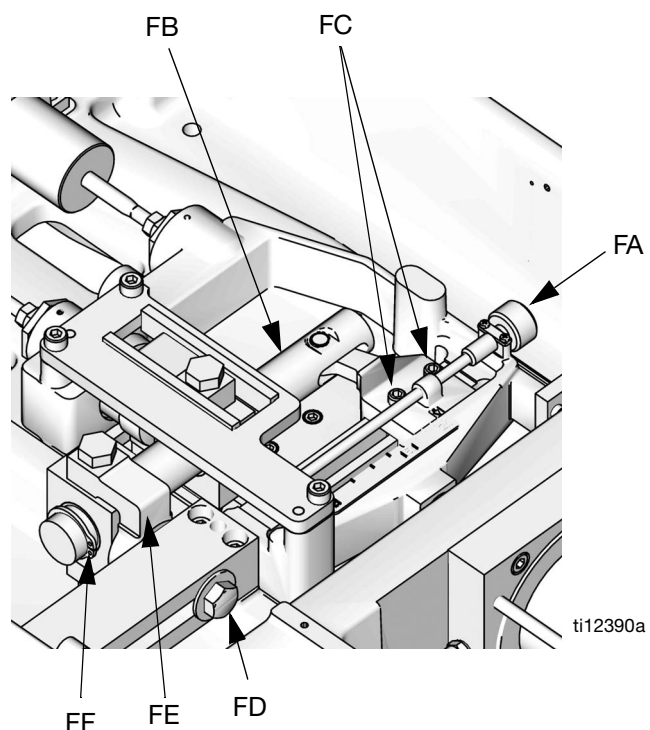
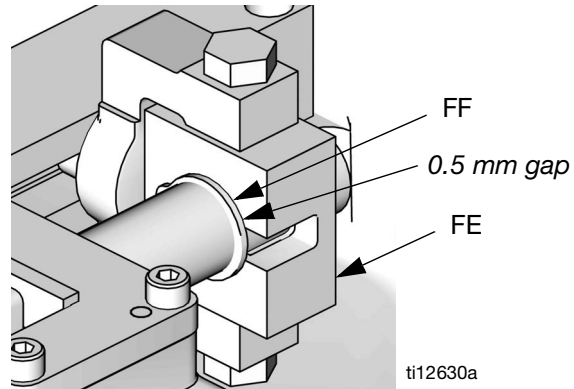

FIG. 9: Variable Ratio Arm Adjustment
FIG. 10: Ratio Beam Snap Ring
4. By manually pulling on the drive block, extend the pistons until the ratio beam (FB) is perpendicular or nearly perpendicular to the pump shafts.
7. Loosen the socket head cap screw (FC) on the adjustment clevis. See FIG. 9.
8. Loosen the hex head cap screws (FD) on the ratio adjustment pivot.
9. Turn the ratio adjustment knob (FA) clockwise to increase the ratio multiplier, and counter-clockwise decrease the ratio multiplier until the desired setting is reached (1.19 in the example).
10. Tighten the hex head cap screws (FD) on the ratio adjustment pivot.
11. Slide the ratio beam guide (FE) so there is a gap approximately 0.5 mm between the ratio beam guide (FE) and the snap ring (FF) as shown in FIG. 10.
12. Tighten the socket head cap screw (FC) on the adjustment clevis.
10. If the materials do not exit the dispense valve at the same time, adjust the piston phase adjustment screw as follows. Refer to FIG. 10.
- c. Use a 7 mm wrench to turn the piston shaft (301) counterclockwise 1/4 turn or less to move the A piston forward.
NOTE: Ensure the piston shaft and phase adjustment screw do not rotate while tightening the locking nut in the following step. Refer to FIG. 10.